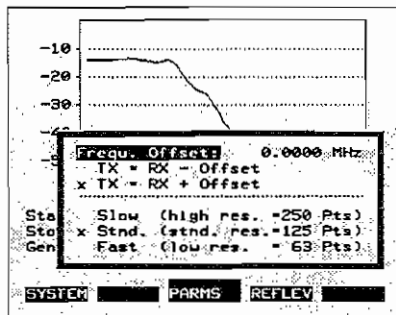

Fig. 10.7: In the PARMs menu you choose the speed or resolution per test cycle
- ⇒ Open PARMs menu with **MENU** + **PARMS** (Fig. 10.7).
In the PARMs menu you choose the speed or resolution (number of frequency reference points) per test cycle (Fig. 10.7). There are three different speeds or resolutions: